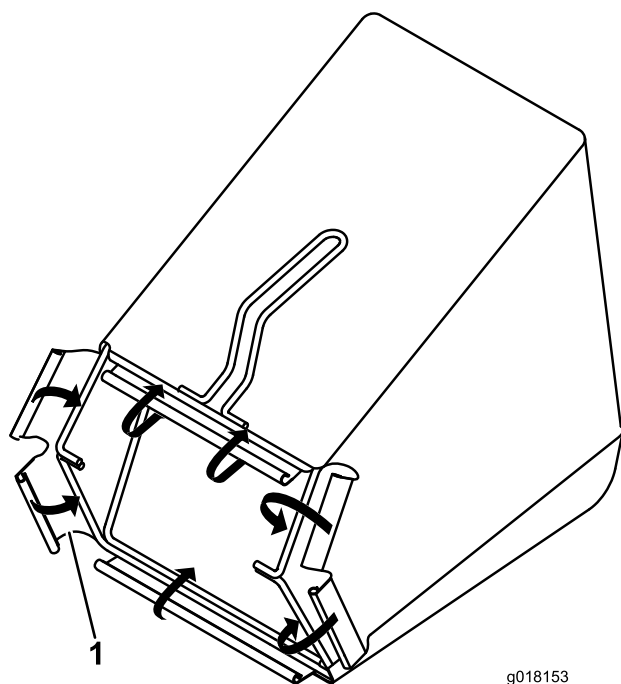

Figure 5
2. Attach the plastic clips to the grass-bag frame (Figure 5).